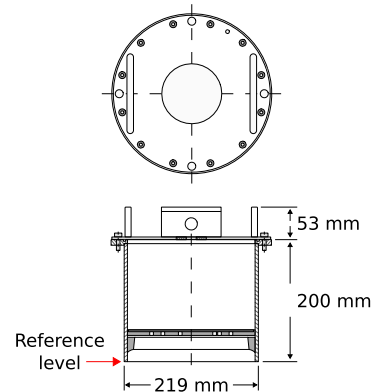

Figure 1.2: The reference level for mounting height measurement.
- The reference level for the mounting height of the radar sensor is shown in Fig. 1.2.